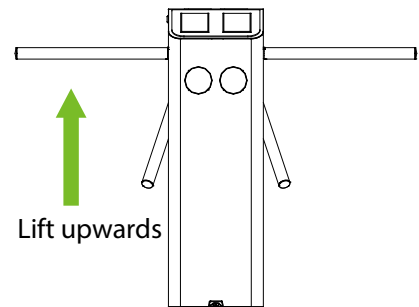

Figure 2-4
- Lift the arms manually, as shown in Figure 2-4.